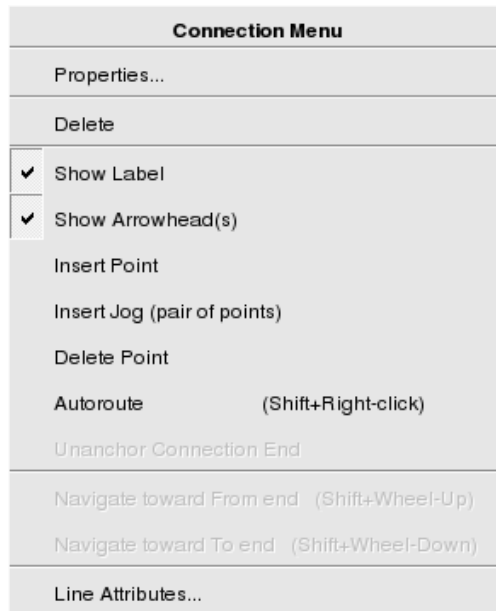

Figure 40 Connection Menu
1. Right click the IN -> TF connection line to display the Connection menu shown in Figure 40. While holding down the right mouse button, select Line Attributes....